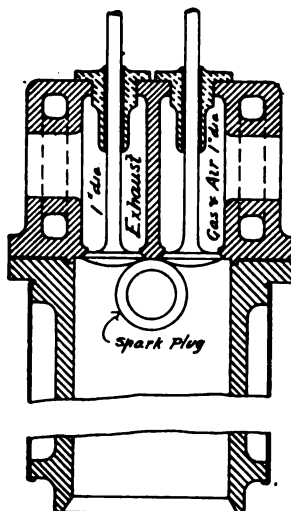

FIG. 1.
[17,500] **Small Petrol Motor Design.** E. W. W. (Atherstone) writes: (1) Do you think the enclosed design suitable for a small petrol engine (shown in Figs. 1 and 2), 2½-in. by 3-in. stroke, 1,000-1,200 r.p.m.? I have shown the valves 1 in. over-all on the head. (2) Do you think that this could be reduced? (3) Cylinder walls ¼ in. thick. Is this enough? (4) Water-jacket for cylinder is of brass tube, spun over as shown. Will this do, or must it be brazed? (5) In your issue for June 7th, 1906, Vol. XIV, No. 267, "Sregor" suggests steel tube, oval section, for